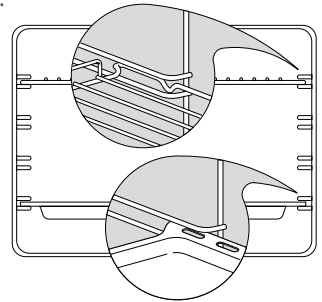

Fig. 21 Correct position of shelves and pan
- Slide in the shelves and grill pan as shown in Fig. 21. Fit them between the metal runners, with the safety stop notch down and at the back. (If the shelf supports and catalytic panels are not already fitted, see 'Care and cleaning' for how to do this).